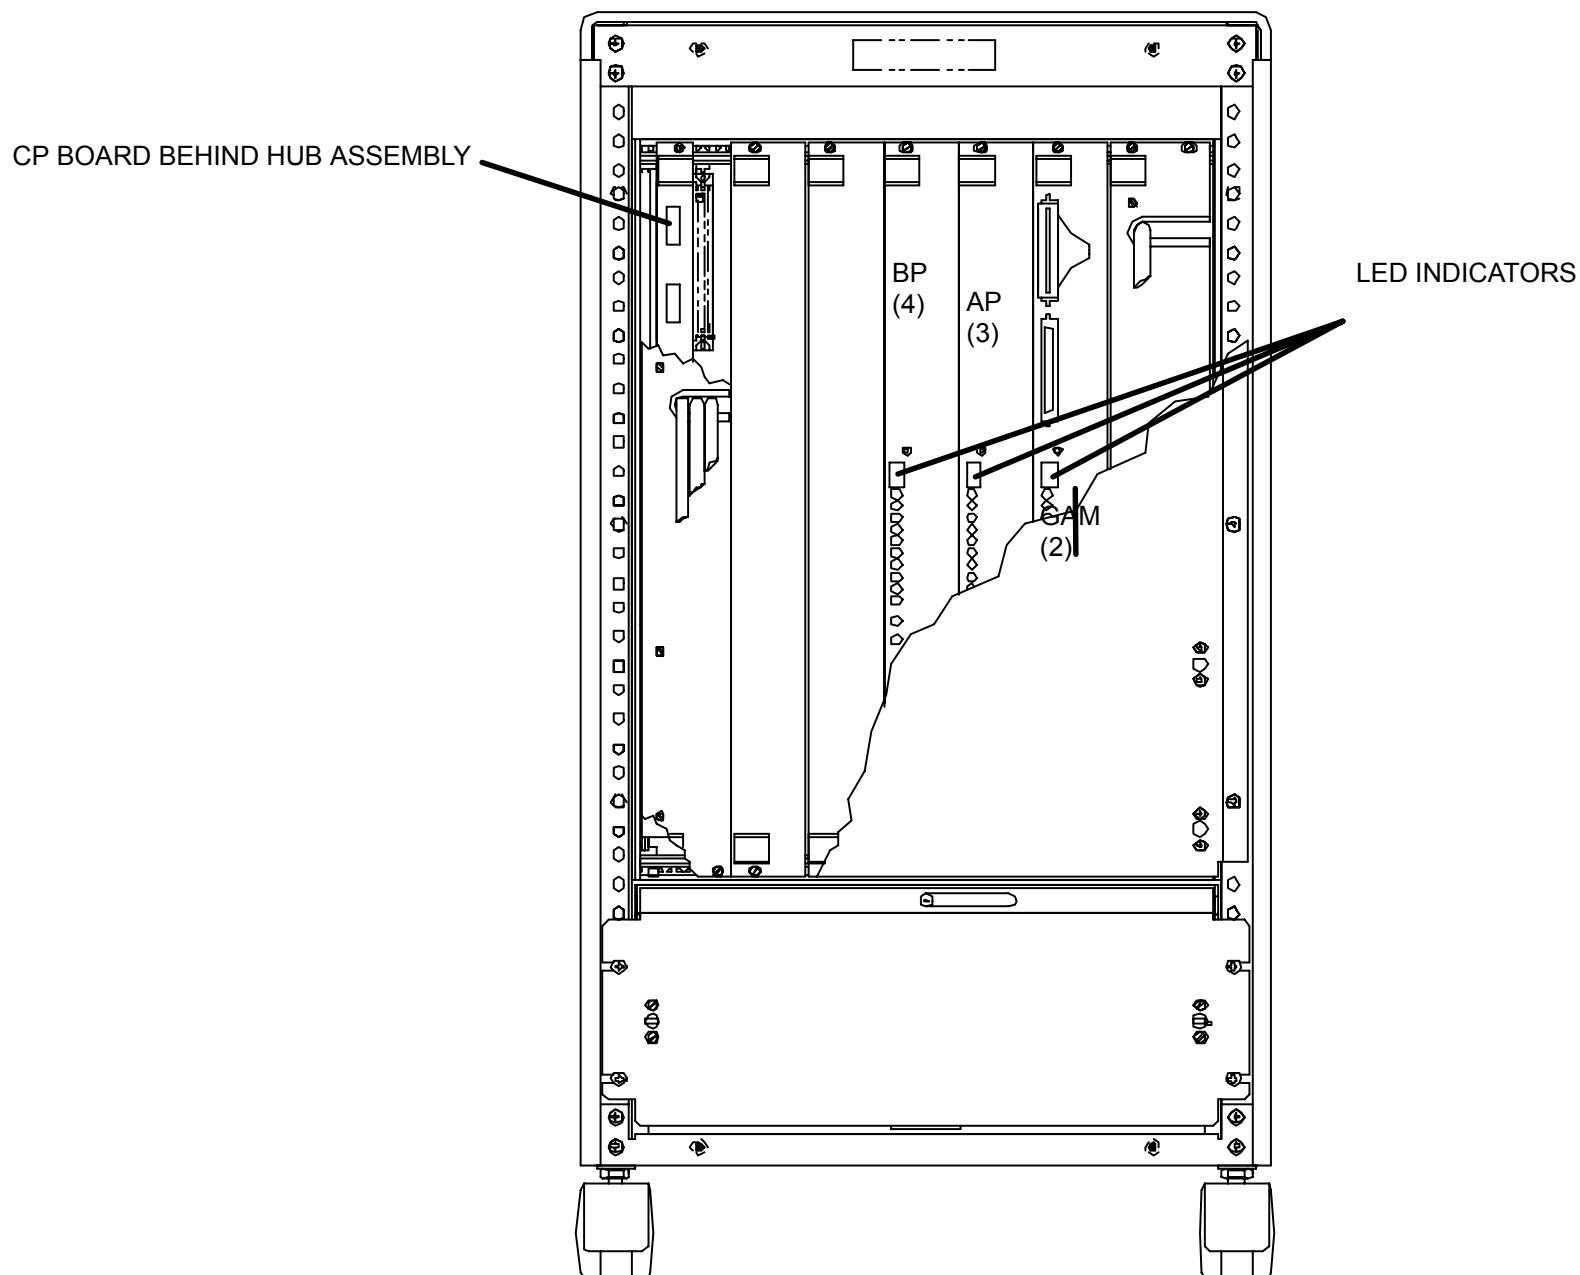

FIGURE 335 ACQIMAGE CABINET BOARD LOCATIONS
2. The GAM, AP and BP boards may be in different slot locations, with the most common configuration being from left right: BP, AP and GAM. When the boards are properly booted, the LED status indicator on the front will read “4” for BP, “3” for AP, and “2” for GAM. Refer to Figure 335.
3. Loosen the top and bottom captive screws from the board you wish to remove. In order to remove the CP, the Hub Assembly must be removed first. Refer to the Hub Assembly Removal procedure. Refer to Figure 335. Remove and label any cables attached to the CP board.